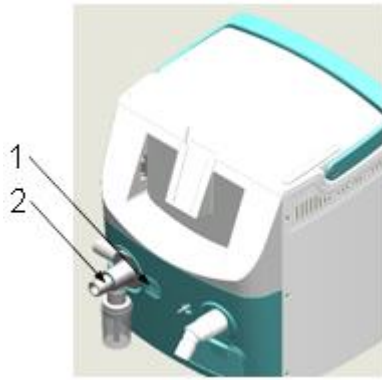
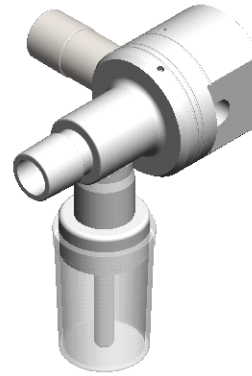

Figure 8-1
Figure 8-2
- a. Press the button(1 in Figure 8-1);
- b. Pull out the expiratory valve core component (2 in Figure 8-1, Figure 8-2);
- Insert screwdriver into the trench (1) of end of fuse box, see Figure 8-2.
- Pull out fuse holder (2).
- Remove the fuse (3).